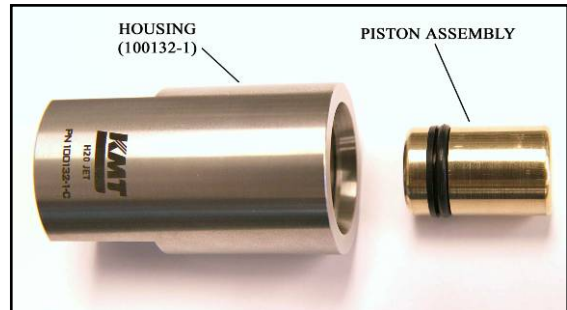

FIGURE 6
16. Slide the Piston Assembly (Piston Insert end first) into the Housing (100132-1) until seated. **See Figure 6.**